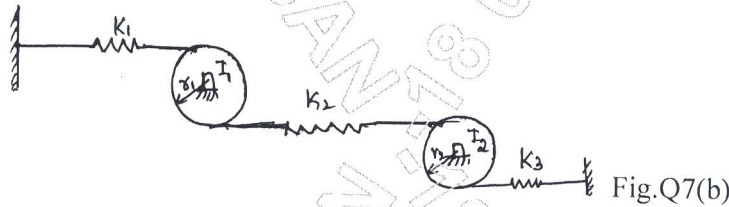

Fig.Q7(b) (08 Marks)
- b. Determine the natural frequency of the system shown in Fig.Q7(b).